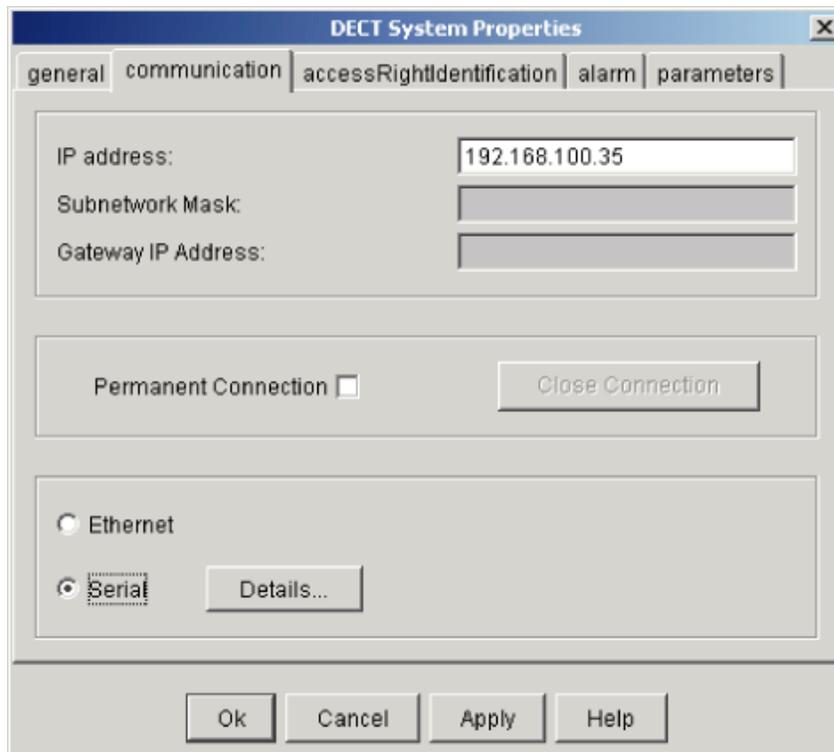

Figure 152: DECT System Properties - communication tab
5. Click the Communication tab to select it. See Figure 152: DECT System Properties - communication tab on page 218.